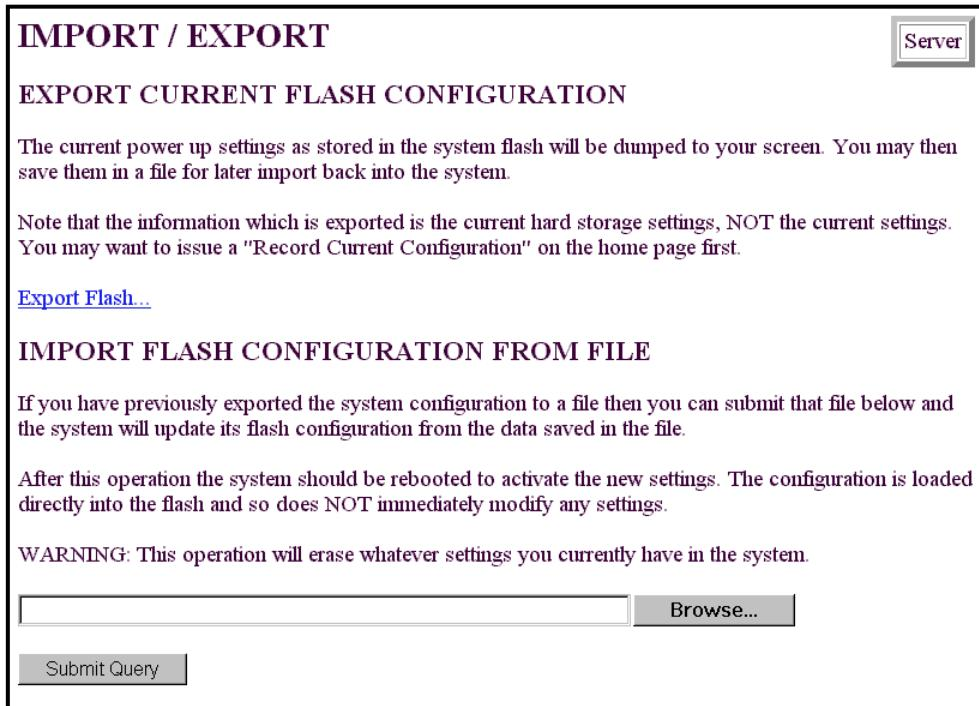

Figure 38. Import/Export main window
4. To import or export a configuration, click on Import/Export under the Configuration Menu to display the Import/Export main window (see figure 38).